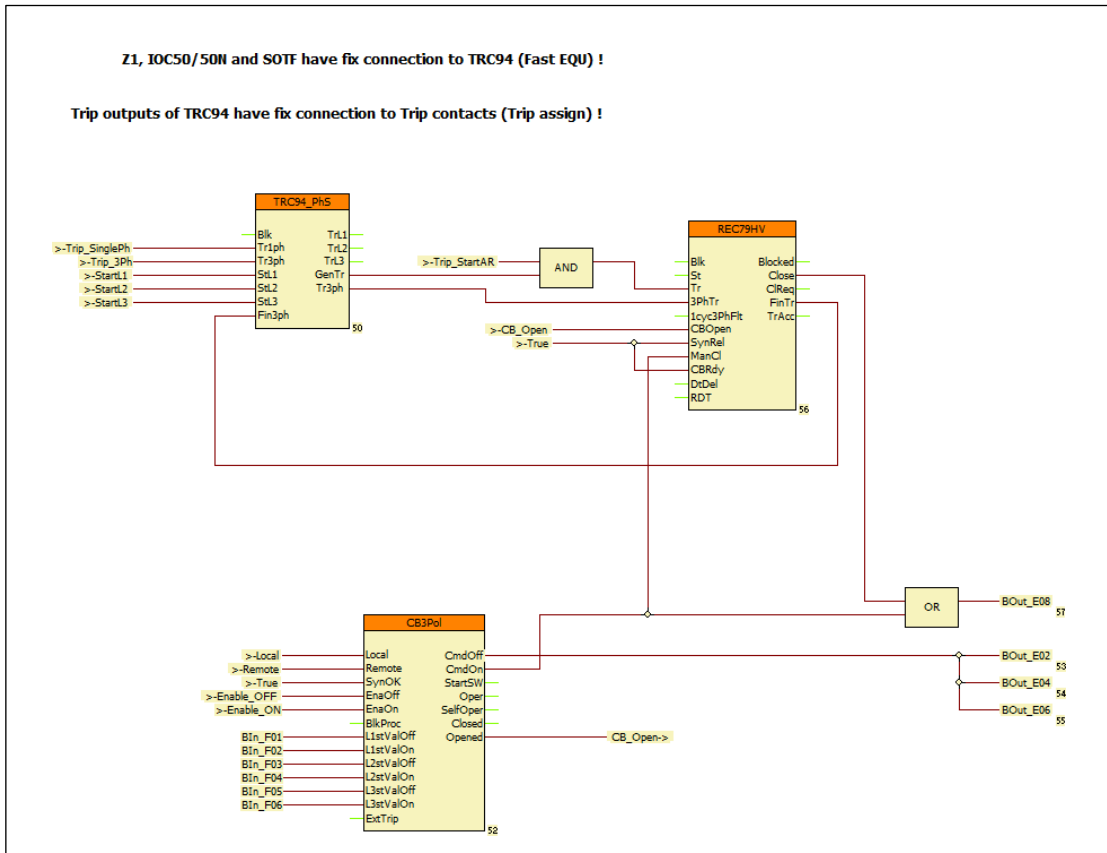

Figure 5-3 Example: Automatic reclosing and circuit breaker control
Figure 5-3 shows an example for the application of the automatic reclosing control block. In this Figure it is supposed that the fast protection functions operate according to the factory configuration and they control the TRIP contacts applying two steps of the preparation and command generation phases. This part of the program is not visible in “Master” level. (The description of the fast operating protection functions are listed in the configuration description of the devices.)
According to *Figure 5-3*, the local command issued via LCD of the device or the remote command received from the remote SCADA system is processed by the „CB3pol” functionblock (Output „CmdOff”). This control is programmed in the factory to “BOut\_xx” variables. The user can perform any modification in the graphic programming.
In *Figure 5-3* the close command is connected directly to a dedicated output. (This is usually the fourth contact of the TRIP hardware module.)
The evaluation of the status signals indicating the open state of the circuit breaker poles in OR gate is needed for the operation of the automatic reclosing function. According to the scheme of *Figure 5-3* the open state is indicated by at least one pole open state of the circuit breaker. (For simplicity, this Figure shows a realization without checking the FALSE signal of the closed states.)
*Figure 5-3* supposes that the CB ready signal is not connected to the device; accordingly the steady TRUE state signal is connected to the „CBRdy” input of the „REC79\_HV” automatic reclosing function. If the real signal is available, the signal must be connected similarly.
An extension to the example in *Figure 5-3* is the close command to the circuit breaker is generated by synchro-check. The enabling signal for the close command is generated by the „SYN25” software module. This module is described in details in a separate document. The needed input signals indicating the state of the voltage transformers („VTSBik” and „Bus1VTSBik”), must be programmed graphically.